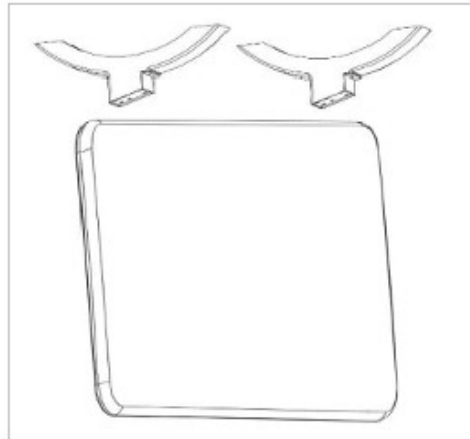

Fig. 1.
- The radiator is packed in its original packaging without the wheel supports installed. Therefore, you should install them yourself before using the device for the first time, as shown in the picture (Fig. 1.).
- Mount the feet on the mounting feet as shown in the diagram below (Fig. 1.).